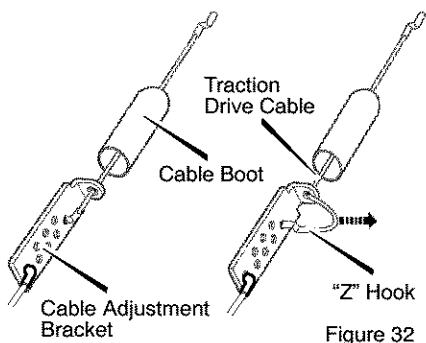

Figure 32
5. Slide the **cable boot** off the **cable adjustment bracket** (see Figure 32).